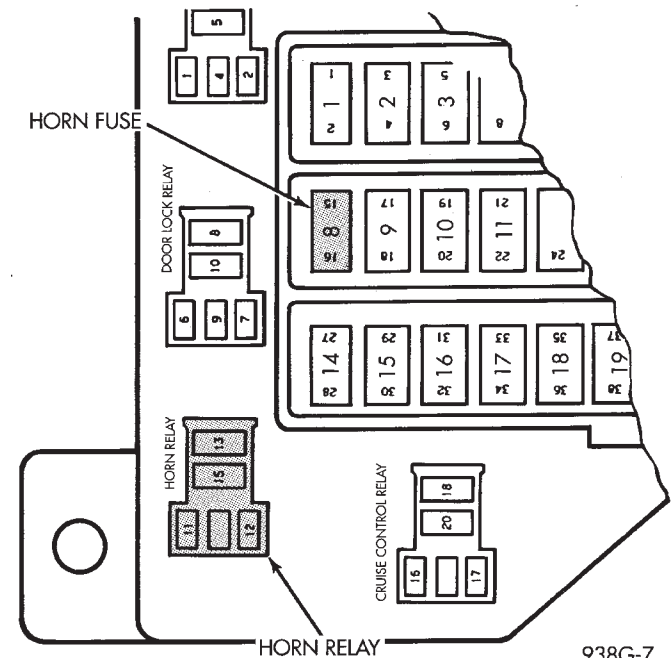

Fig. 4 Horn Relay Location
- (1) Open the driver's door and remove the instrument panel end cover.
- (2) Remove the horn relay (Fig. 4).